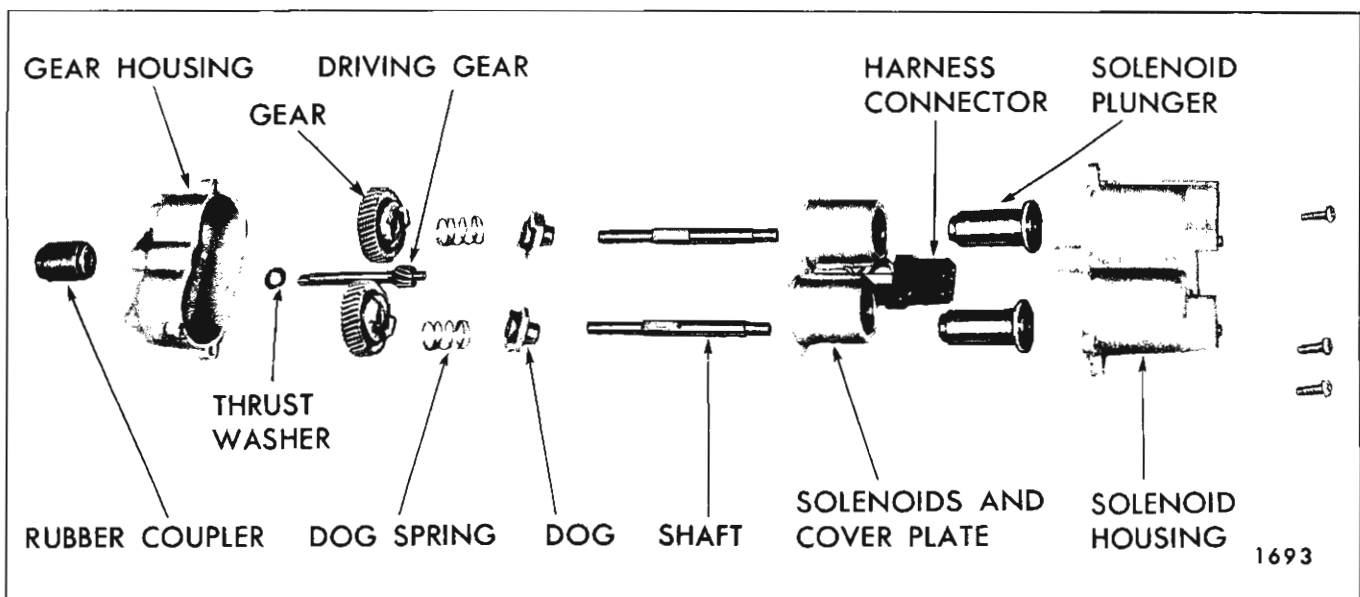

Fig. 1H25—Four-Way Seat Adjuster Transmission
3. Remove nuts securing motor and transmission support to inboard adjuster (Fig. 1H24).
2. Remove nuts securing support to both adjusters (Fig. 1H24).